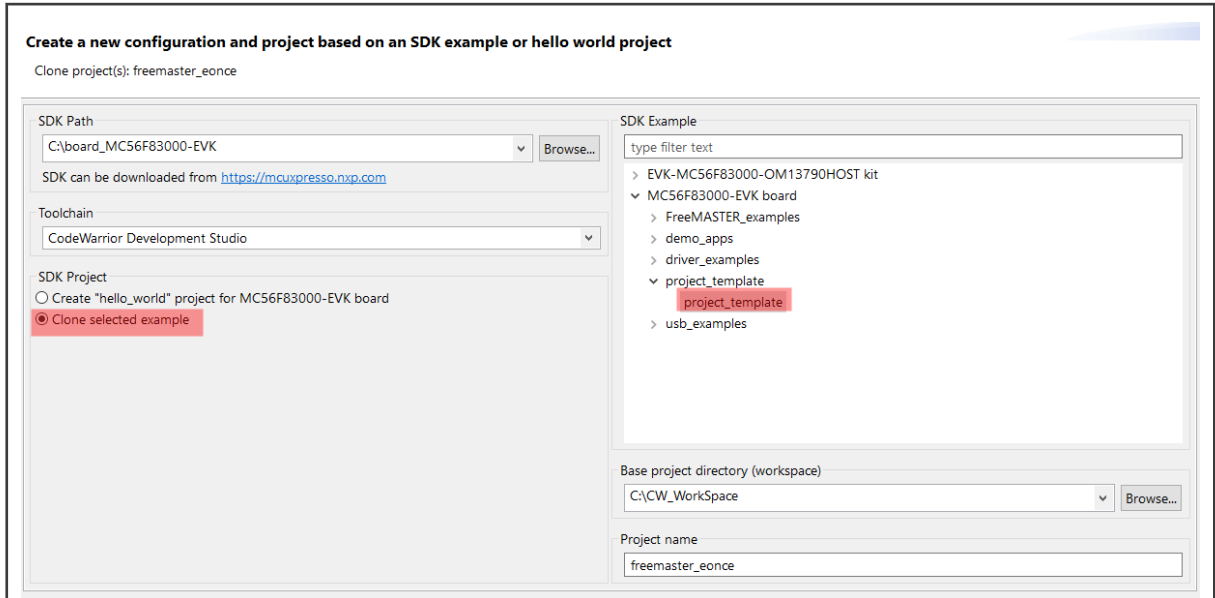

Figure 2. Selecting project\_template
- b. In the popped out window, select the correct SDK path. Select **Clone selected example** and choose `project_template`, as shown in Figure 2. Make up a proper CodeWarrior project name in the **Project name** textbox. Click **Finish**.